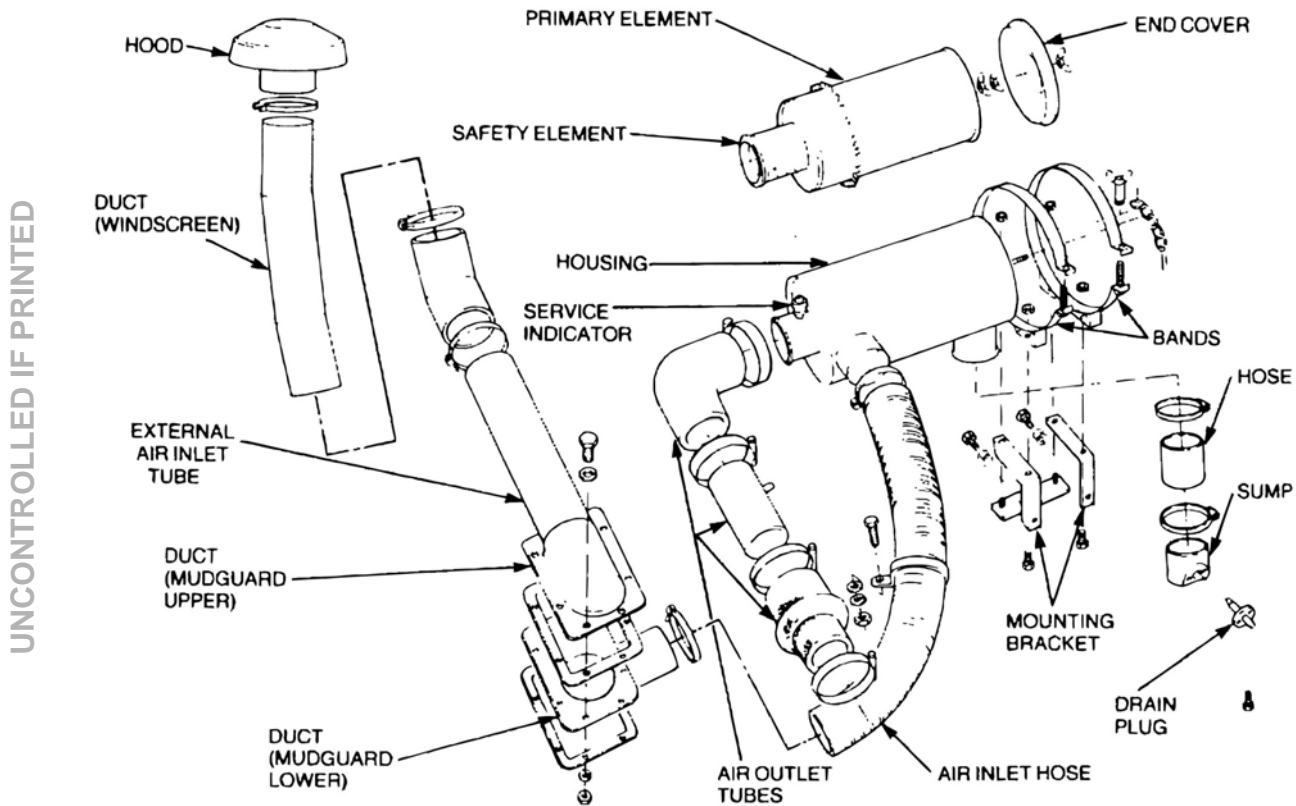

Figure 2 Air Cleaner Assembly – Exploded View
**19. Air Cleaner Components.** An exploded view of the air cleaner assembly and its components, including hoses and mountings, is shown in Figure 2.